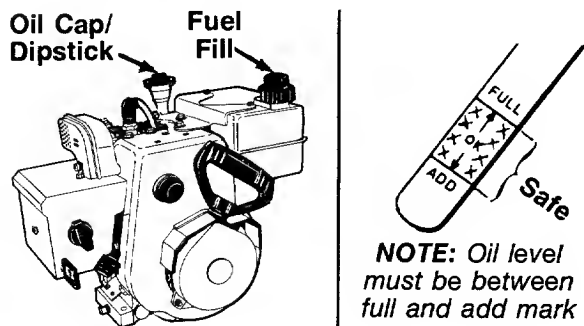

FIGURE 21.
1. Position snow thrower so engine is level. Remove oil fill cap and dipstick. See figure 21. Fill crankcase to FULL mark on dipstick (about 1-1/2 pints) with SAE 10W30 motor oil or equivalent. **Do not overfill.** Tighten fill cap and dipstick securely each time you check oil level. If temperature is consistently 20°F. or lower, SAE 5W30 motor oil may be substituted.